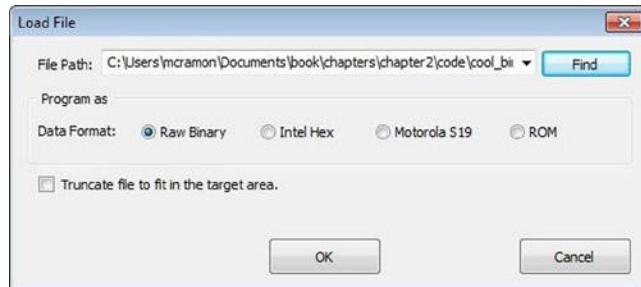

Figure 2-18. Selecting the binary file to program
4. Click the File option and select the binary with the platform you have created, as shown in Figure 2-18. Make sure that the **Raw Binary** option is selected and then click the OK button.